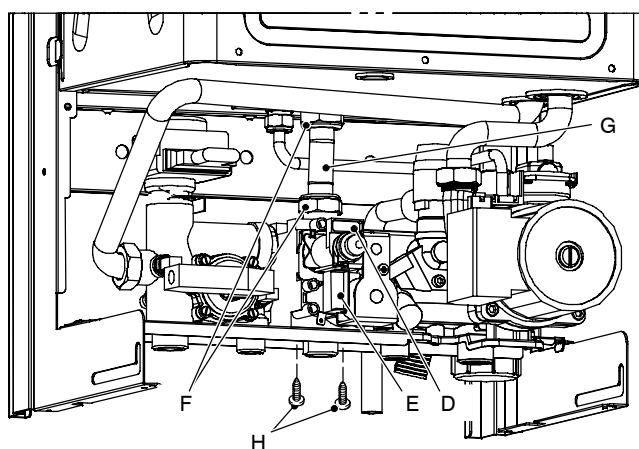

Fig. 50
- 2 Disconnect the connectors *D* (Fig. 50) from the modulating operator and measure the electrical resistance of the coil. Its electrical resistance value must be approx. $114 \Omega^*$.
- 2 Disconnect the electrical connector *E* (Fig. 50).
- 2 Disconnect the connectors *D* and *E* (Fig. 50).